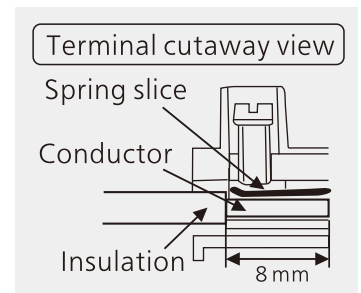

Figure 2
- ⚠ Strand the core wire together after stripping, then insert them into about 8 mm deep position of the terminal block, ensuring that the part is under the spring slice, and no copper core cord is exposed outside. Make sure that the copper core cords are fixed by screws reliably (the recommended screw fixing torque is 0.49 N·m) (See Figure 2). Otherwise an electric shock may be caused.